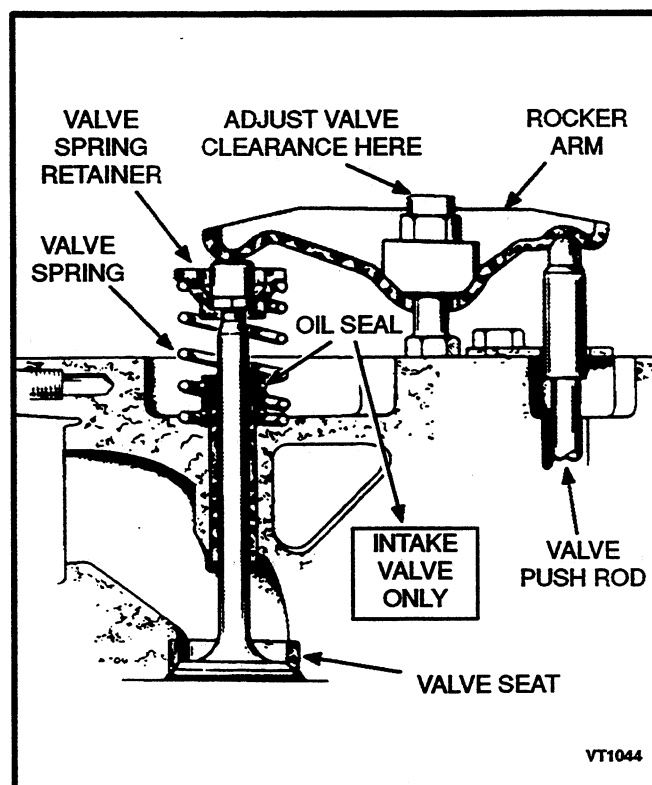

FIGURE 7-4. VALVE CLEARANCE ADJUSTMENTS
3. Check cylinder head-bolt torque prior to valve clearance adjustment. Torque values are listed in the *Specifications* section. Adjust valve clearance with the locknut which secures the rocker arm to the cylinder head (Figure 7-4). Loosen this locknut to increase clearance, tighten it to reduce clearance.